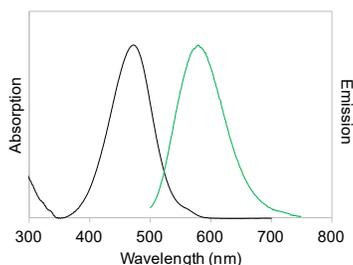

Figure 3. Absorption and emission spectra of SynaptoGreen C4 (also known as FM1-43) in liposomes.
Abs/Em: 510/625 nm (in MeOH); 480/598 nm (in membranes) (Fig. 3)
When using nerve terminal dyes, one frequent problem researchers encounter is background fluorescence due to nonspecific membrane staining. Although most of the background fluorescence can be removed by repeated washing, the problem is still significant with dyes that have a longer tail or more double bonds, particularly when the dyes are used in tissue preparations. The red fluorescent dye Sulforhodamine-101 has absorption that overlaps with the emission of SynaptoGreen C4 (Figures 3 and 4). Sulforhodamine 101 is not taken up into vesicles, so it selectively quenches the extracellular fluorescence of SynaptoGreen by fluorescence resonance energy transfer (FRET), allowing specific imaging of the intracellular vesicle staining (1).